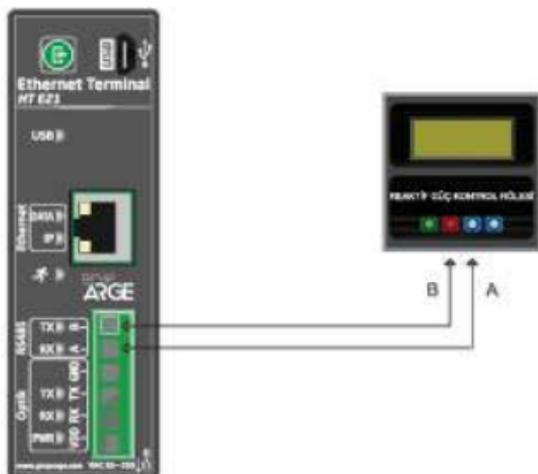

Figure 16
- d. Modbus Device (Relay, analyzer etc.) / RS-485: See. Figure 16; 17